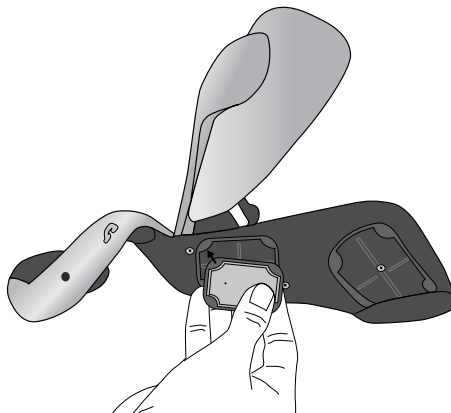

Figure 6-20: Inserting Cloth Electrode into Electrode Base
6. For cloth electrodes #1, 2, 4, and 5, face the white dot on the cloth electrode toward the electrode base. Insert the corners of the cloth electrode into the electrode base. See Figure 6-20.